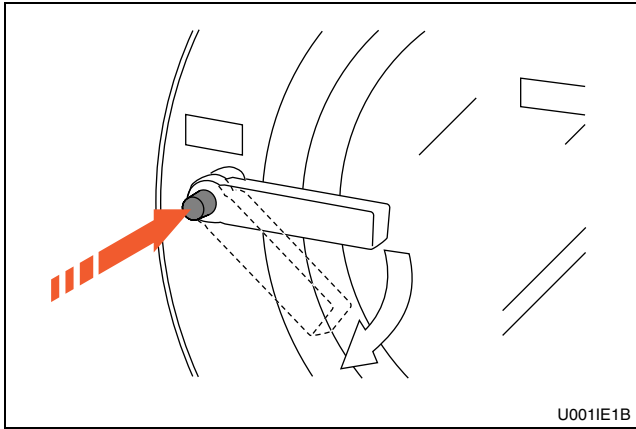

Figure 24
2. Push button and turn handle clockwise to open. Refer to *Figure 24*.